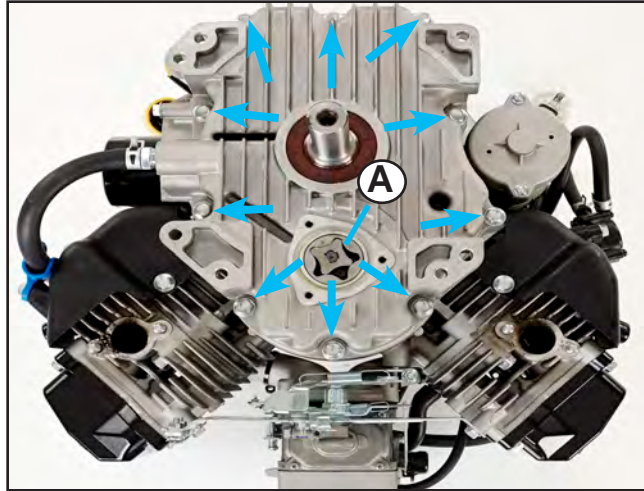

Figure 35
1. Remove the oil pump assembly (A), if not previously removed, see “Oil Pump.” chapter 7, page 7-28.
2. Remove the ten (Figure 35) bolts retaining the sump cover to the engine crankcase.